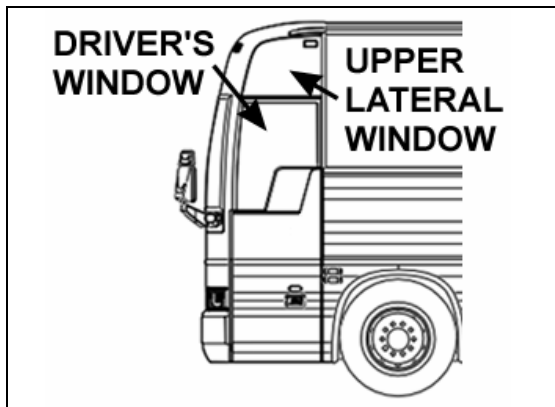

FIGURE 15: DRIVER'S OR UPPER LATERAL WINDOW
- Refer to figure 15 and apply a double-face self adhesive tape 1/16 by 1/2 inch.